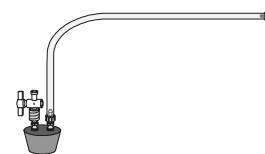

Figure 2
- d. Obtain a rubber-stopper assembly with a piece of heavy-wall plastic tubing connected to one of its two valves. Attach the connector at the free end of the plastic tubing to the open stem of the Pressure Sensor with a clockwise turn. Leave its two-way valve on the rubber stopper open (lined up with the valve stem as shown in Figure 2) until Step 6.